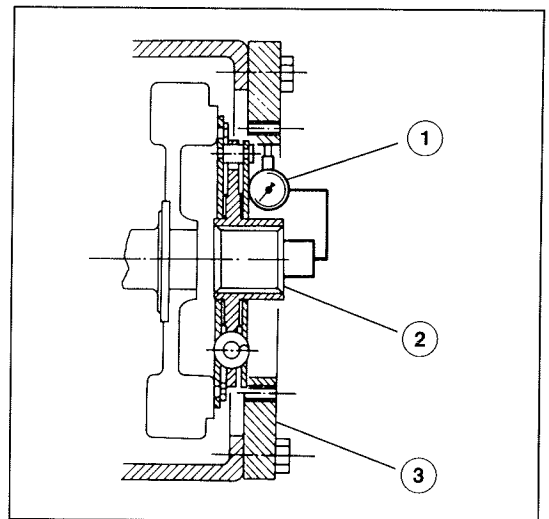

Figure 7
- Attach caliper linkage (Figure 7, item 1) to the damper plate (Figure 7, item 2).
- Apply base of caliper at right angles to centering surface of intermediate flange (Figure 7, item 3).